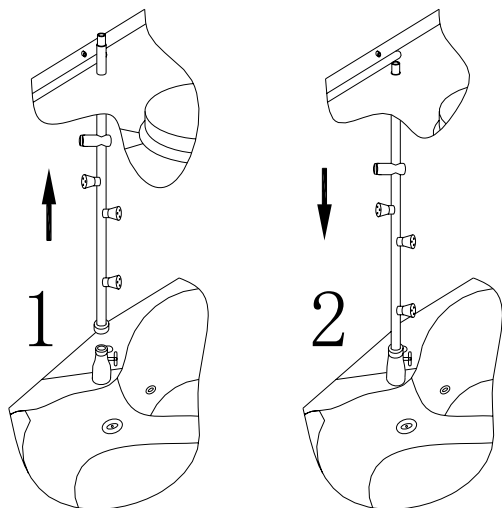
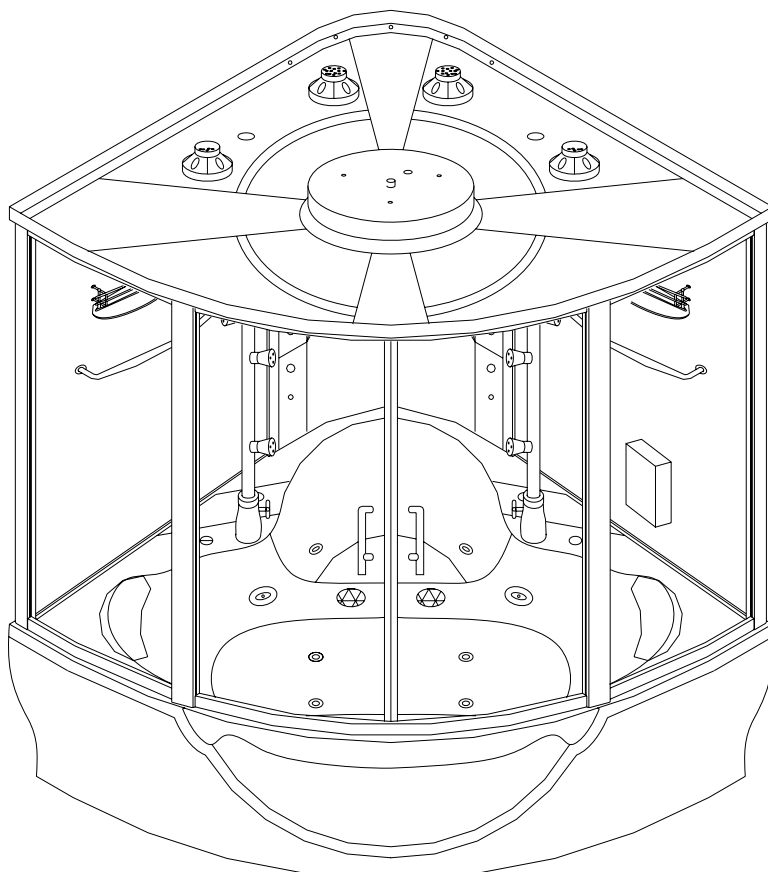

Fig.8
Fig.9
8. Install the stainless steel pillar ----install 2 spray nozzles, one horizontal pole of the hand shower, small round slice ,etc, one end of the nozzle downwards , insert the top into the hole of the top cover first , then connect the under part with the switch in the bathtub by revolvable nut of itself. Seeing Fig. 8 in the position showed in Fig. 9.